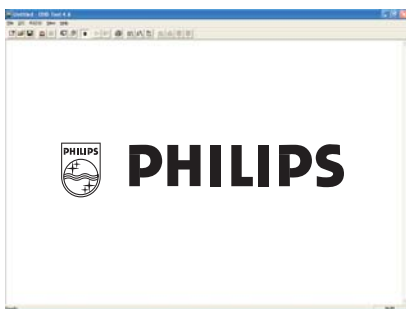

Fig. 7
4. Click OK button. The main menu appears (as shown in Fig. 7).
1. Click icon as shown in Fig. 7 from the tool bar to bring up The Channels "Configuration Setup" windows as shown in Fig. 8